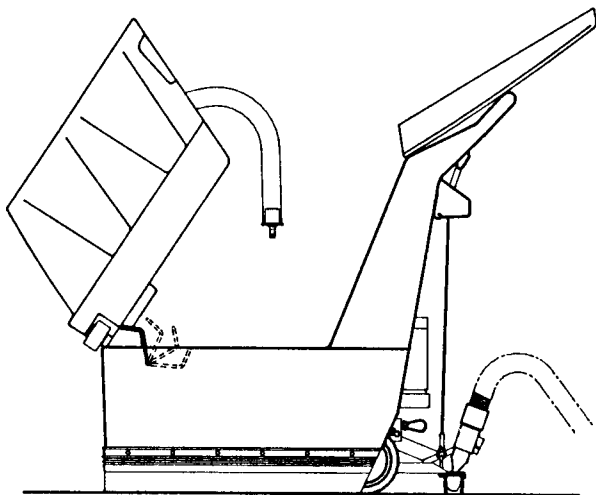

Fig.1
4. Position tank kickstand as shown below, figure 1, to hold tank in upright position. To lower, raise tank slightly forward and manually move kickstand to freed position.